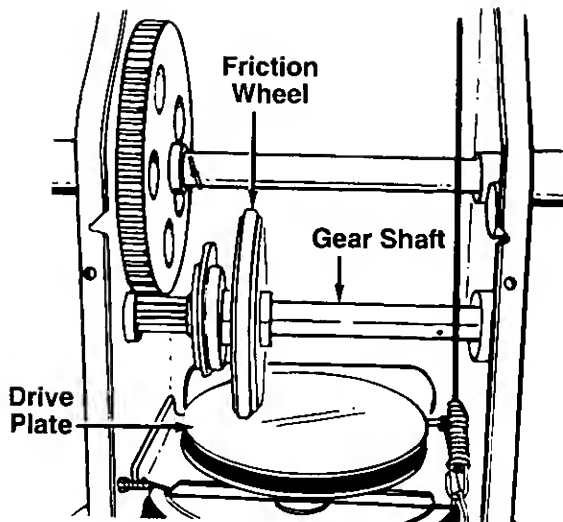
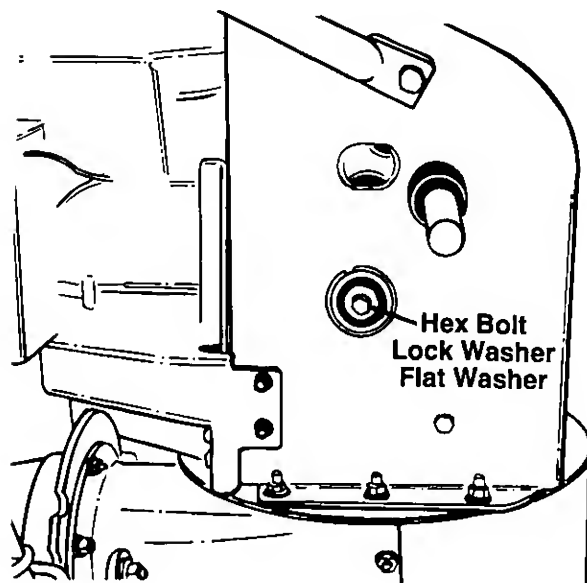

FIGURE 14.
FIGURE 21.
With the traction drive clutch released, there must be clearance between the friction wheel and the drive plate in all positions of the shift lever. With the traction drive clutched engaged, the friction wheel must contact the drive plate. See figure 14.
Lubricate the gear shaft with "Slick 50 Grease" at least once a season or after every 25 hours of operation (available at automotive stores, or order part number 737-0290). Refer to figure 14.
5. Remove the gear shaft from the unit by removing the bolts, lock washers and flat washers from each side of the frame. See figure 21. Hold the friction wheel assembly, and slide the gear shaft out of the unit toward the right hand side. Refer to figure 14.
8. Slide the friction wheel assembly up onto the shift mechanism as shown in figure 14, and slide the gear shaft back into the unit. Reassemble in reverse order.